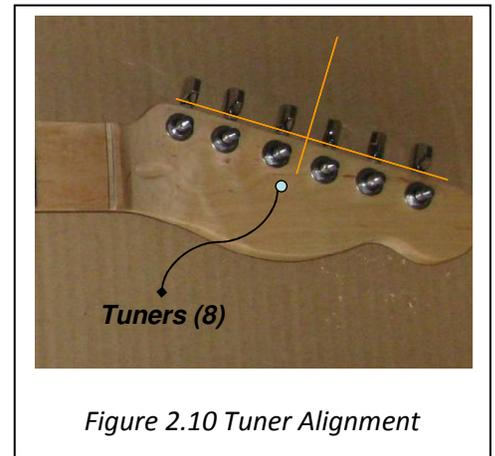

Figure 2.10 Tuner Alignment
1. Insert tuners, 6 each (item #8 on Material List), into the Neck Headstock (Figure 2.8). Ensure that the Tuner shafts are perpendicular to the Headstock (Fig.2.10).